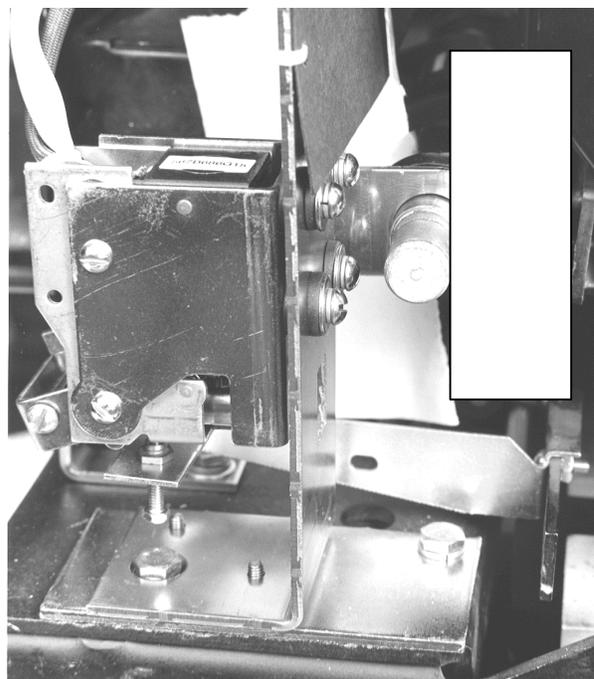

Figure 20. DB-25 flux shifter bracket installed on the cross bar.
- 1b. For a DB-25 breaker, be sure that the reset arm on the left side of the flux shifter assembly is hooked over the cross bar, as shown in Figure 20.